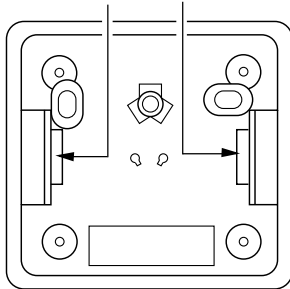

Figure 42 - Back View of Thermostat Base
5. Feed the electrical wires through the rectangular slots on each side of the base (see Figure 42, page 22).